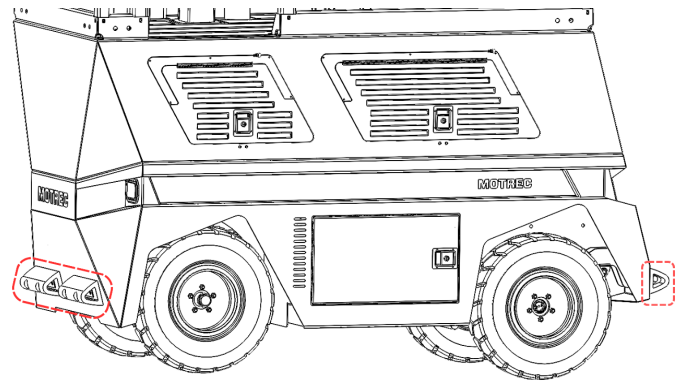

Figure 43. Front And Rear Bumpers.
- Front and rear bumpers. (see Figure 43).